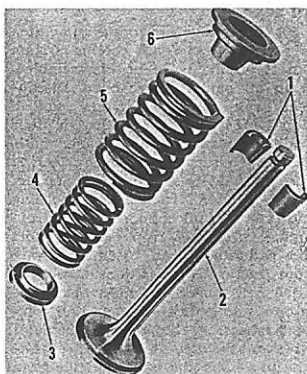

Fig. 54—Disassembled view of valve components, showing correct positioning of springs and retainers.
63. Springs, retainers and locks are interchangeable for the intake and exhaust valves. Inner and outer springs are used as shown in Fig. 54. Springs may be installed either end up on three cylinder models. Springs for four cylinder engines have close coils which should be installed next to cylinder head. The inner spring (4) has a shorter assembled length than outer spring (5) due to stepped seating washer (3) and retainer (6). Renew springs if they are distorted, discolored or fail to meet the test specifications which follow: